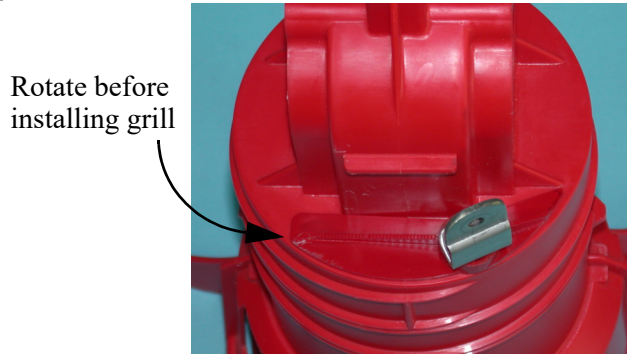

Figure 24. Rotate brood adjustment prior to grill installation.
2. Rotate brood adjustment until cover washer is flush with outer cone, see figure 24.